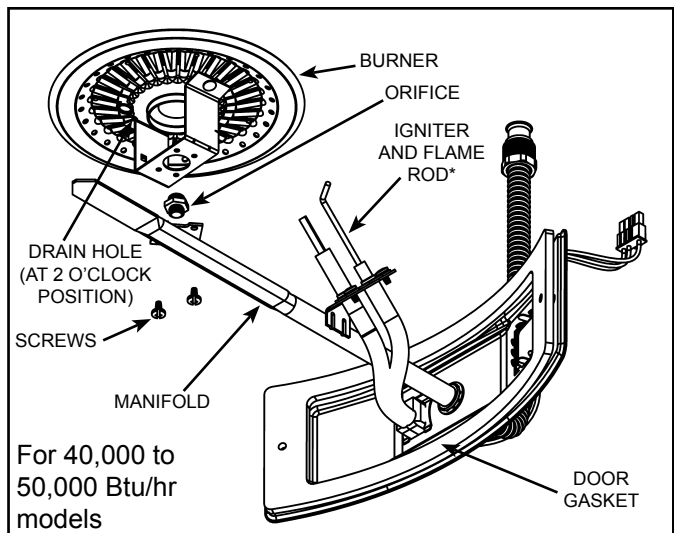

Figure 18
1. Burner may be hot. Wait until burner has cooled off. After noting the position of the condensation drain hole on the top of the burner, turn the inner door/manifold/burner assembly upsidedown. Using a Phillips head screwdriver, remove and retain the 2 screws attaching the burner to the manifold pipe (see Figure 18 & 19).
Care MUST be taken to ensure the burner is installed correctly on the inner door/manifold assembly. Position the new burner upside down with the orientation of the burner's condensation drain as shown in illustration (see Figure 18 & 19).
2. Using a ratchet with 1/2" socket, remove the burner's old orifice (**Note:** the burner orifices have different threads dependent upon the gas type. Orifices for natural gas have right-hand threads, orifices for L.P. have left-hand threads (see Figures 18 & 19).
1. Using a ratchet with 1/2" socket, install the new burner orifice (**Note:** the burner orifices have different threads dependent upon the gas type. right-handed threads for natural gas (turn clockwise to install) and left-handed threads for propane gas (turn counter-clockwise to install) (see Figures 18 & 19). **Note:** Determine whether the orifice is tall or short and DO NOT replace them with each other.
3. Align the screw holes on the inner door/manifold assembly. Using the two screws removed in step 1 above, installed the new burner to the inner door/manifold assembly (rotate the assembly to visually check the top portion of the burner assembly and confirm the orientation of the condensation drain hole as shown in the illustration) (see Figure 18 & 19).